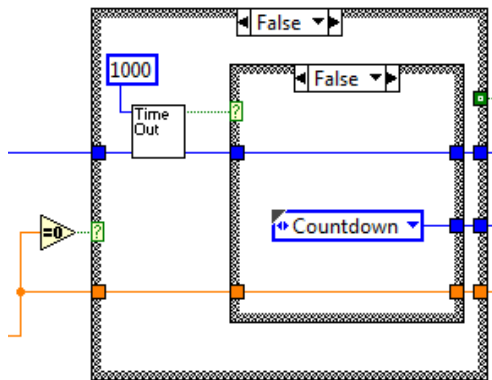

FIGURE 2.18
- Fig. 2.18 shows the other case: what we do when the timer has not yet expired. We remain in the Countdown state, but we don't decrement Count. Instead we just pass the input through to the output.